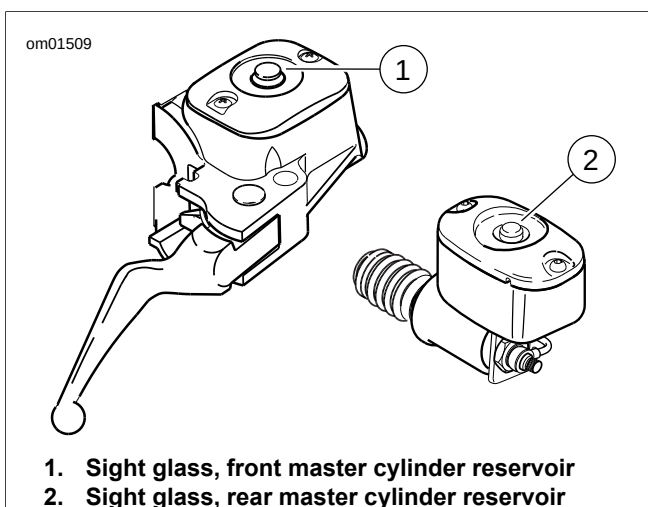

Figure 1-28. Brake Fluid Sight Glass (typical)
- See Figure 1-28. View reservoir sight glass and verify fluid presence. Sight glass should appear dark if fluid is present.